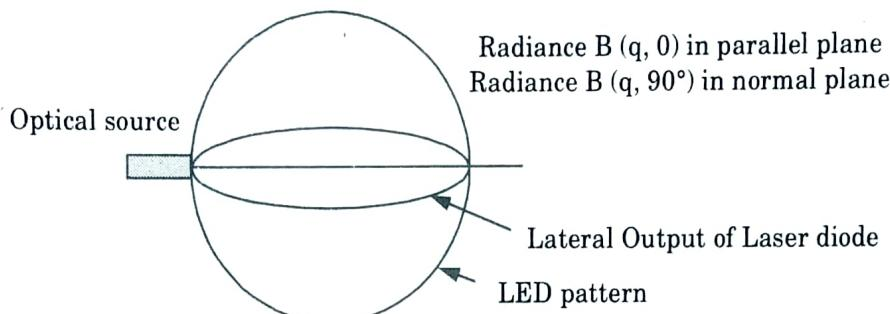

Fig. 4.1.2. Radiance pattern of Lambertian source.
4. The emission pattern of Lambertian output is shown in Fig. 4.1.2 and its output is :